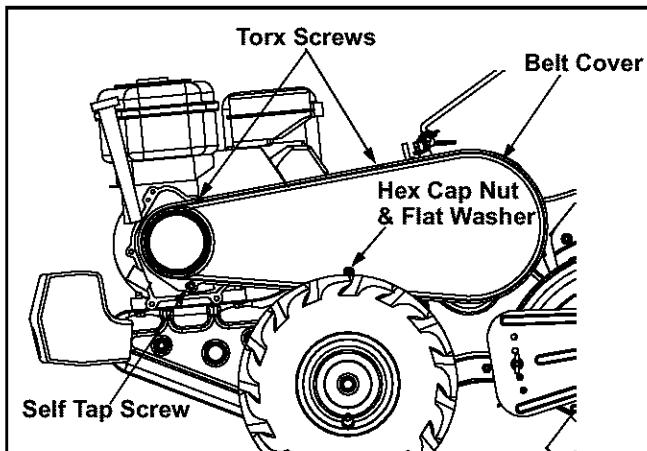

Figure 8
- Remove the belt cover from the left side of the tiller by removing two torx screws from the top of belt cover. See Figure 8.